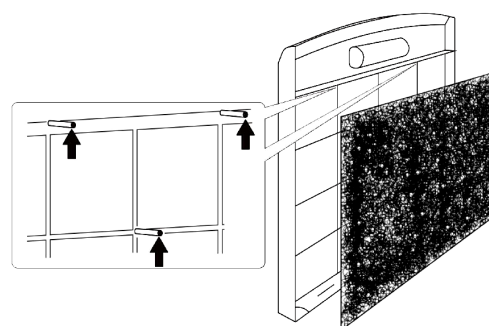

Fig. 1b
2. Place the activated carbon filter on the pre-filter frame by inserting it through the three pins (Fig. 1b)